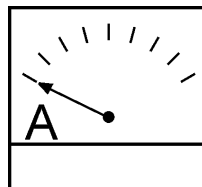

Figure 49. Ammeter (No Load)
13. The ammeter (Figure 49) will indicate **zero amps** with no load applied. When a load is applied, the ammeter will indicate the amount of current that the load is drawing from the generator.